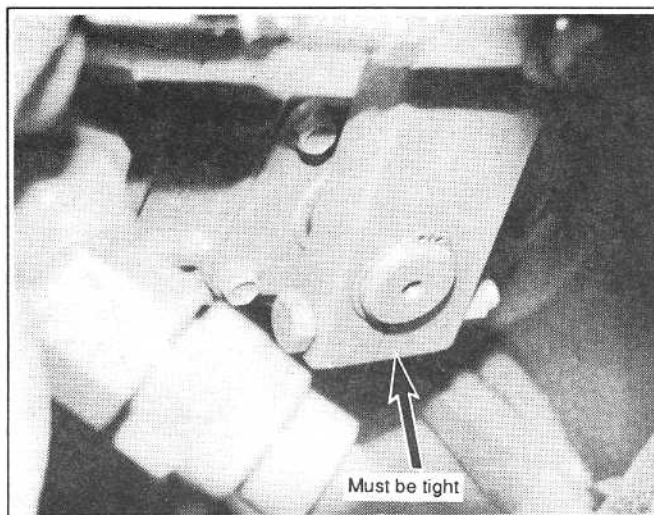

Figure 3-3
C. Check for wear between the arm and key and between the key and pump shaft. (See figure 3-3)